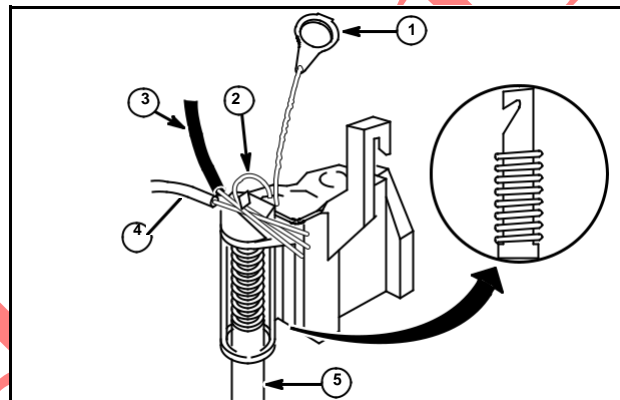

Fig. 15
2. Use a 3/16 inch (4.7 mm) diameter pin punch (5) or a condenser from point set Part #294628 to compress wire retainer spring and insert stop switch and ignition armature primary wire under hook of wire retainer, Fig. 15. Module ground lead (1), module wire (2), coil primary wire (3), wire to stop switch (ground wire) (4).